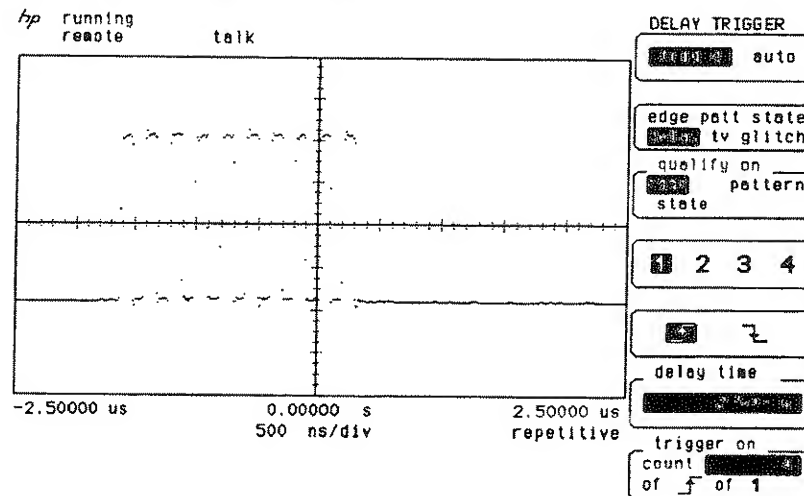

Figure 6-17. Ten Burst Pulse Triggered on Pulse 9
- Change the **trigger on count** key to **9** (see Figure 6-17).